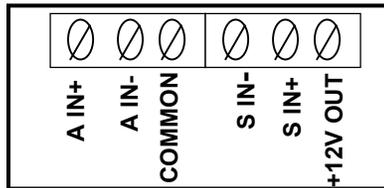

Figure 10
6. Inserts the sensor's DC common wire into the **COMMON** terminal and secure the wire by turning the terminals's screw clockwise. (*Refer to the MX001 box or to Figure 10 for the order of the terminals for the sensor wires.*)